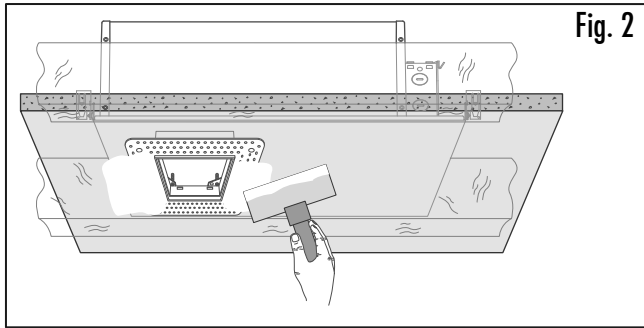

Fig. 2
3. Apply mudding material to the flange (up to the inside edge) and smooth it outward to create a trimless appearance. (Fig. 2)